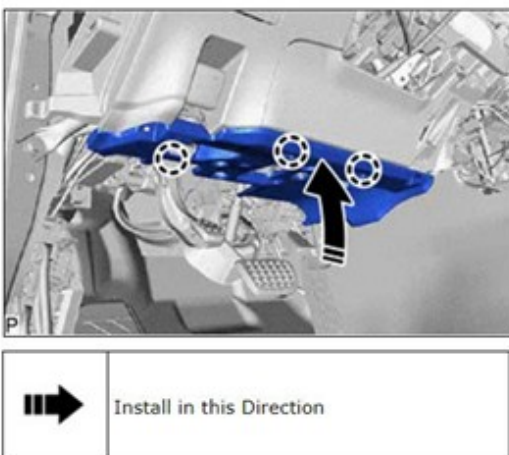

Figure 44
- (e) Engage the 3 claws as shown in Figure 44.